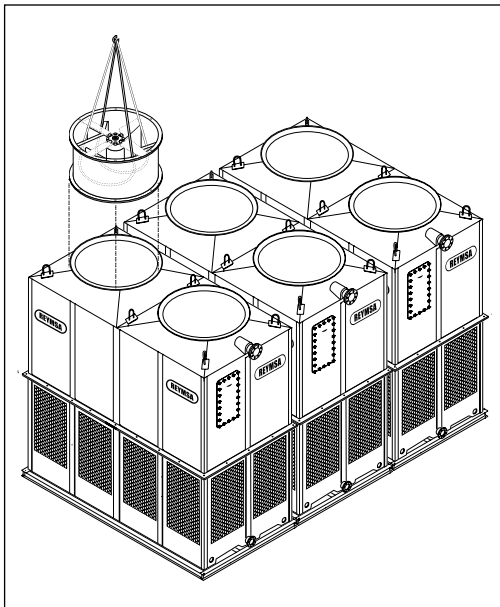

Figure A-65: Fan Duct installation for a Modular Tower (RTM-B-L or RTPM-B-L)
D. Then cradle/straddle the fan support with the straps (as shown in figure A-65 and A-66) so you can lift the fan duct with a crane and assemble it.